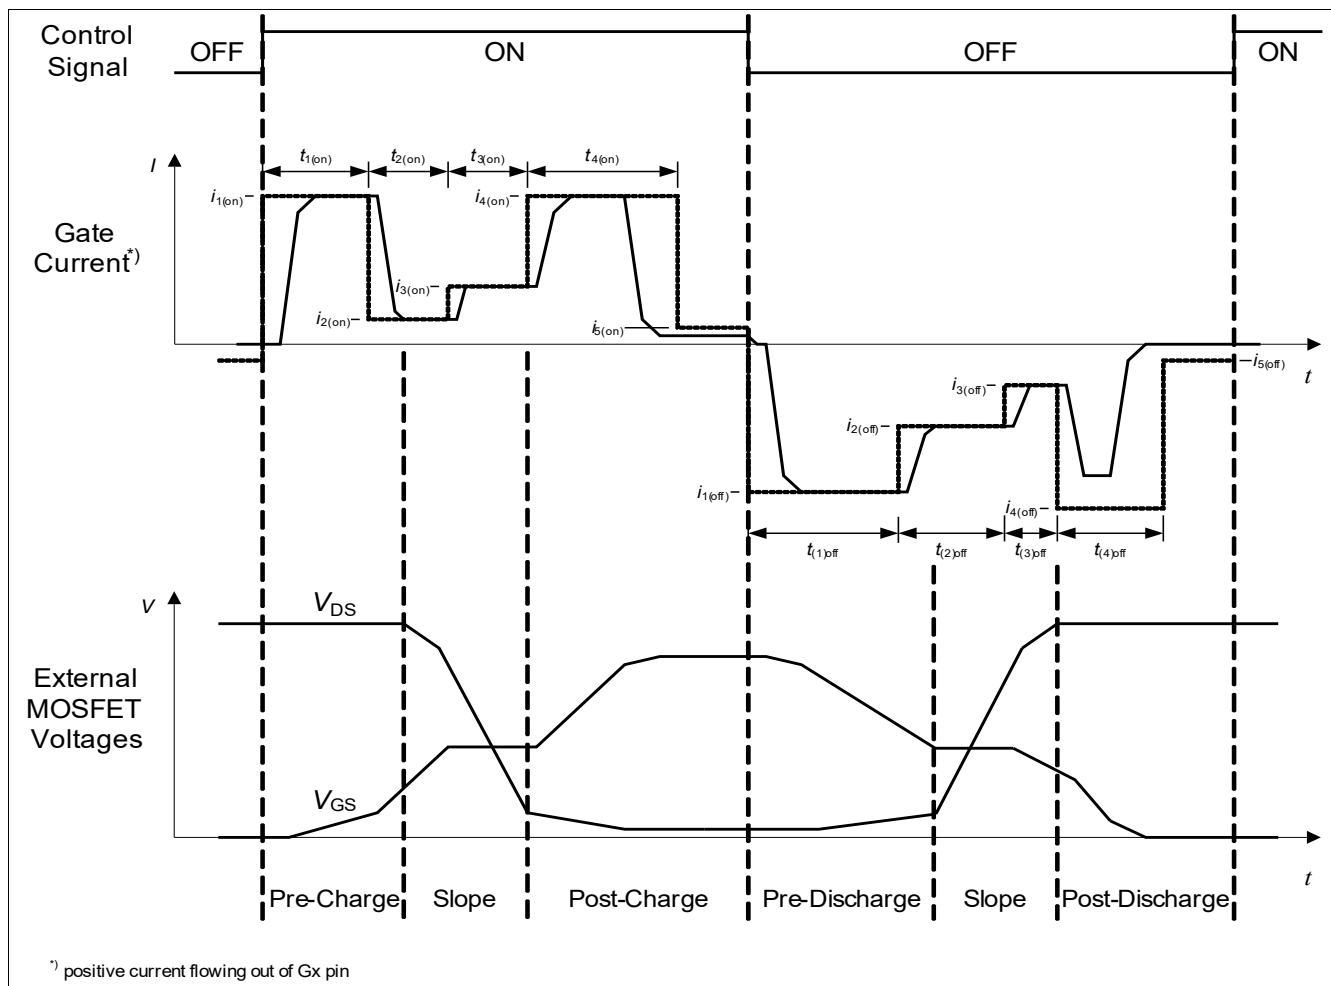

Figure 36 Gate current set point values generated by the sequencer
- In sequencer mode an advanced gate current profile is defined by SFRs where the gate charging phase and the gate discharging phase each are split into consecutive sub phases with individual current set point values and duration values (see Figure 36):